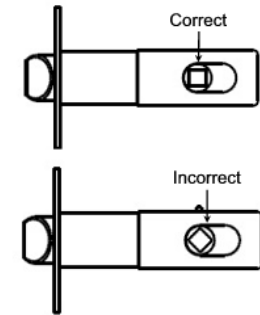
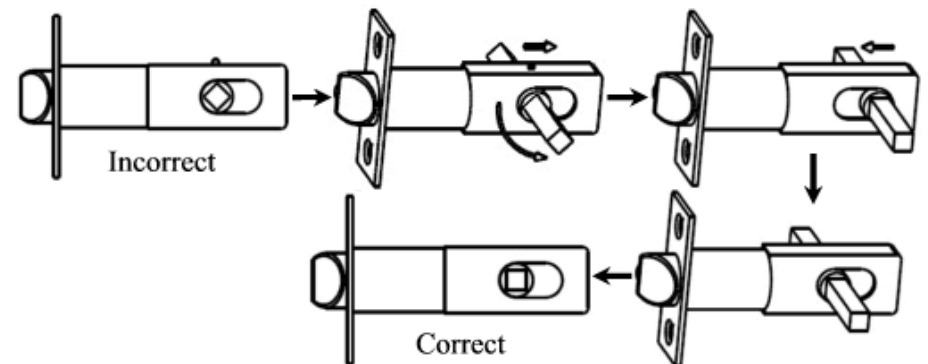

fig. 6
fig. 7
- 3.4 Check square hole edge on the latch spindle. The square hole edges MUST be either parallel or vertically aligned with latch centerline (see fig. 6), otherwise refer fig. 7 to adjust latch spindle.